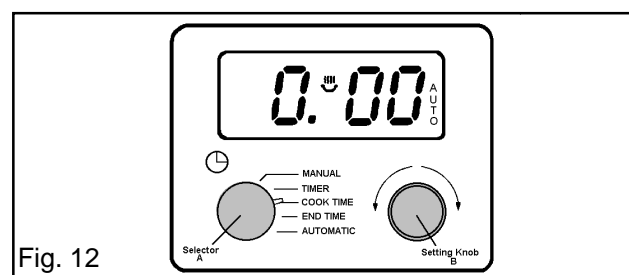

Fig. 12
viii) To cancel the signal, turn setting knob (B). The display will show 0.00 when the selector (A) is turned to 'Cook Time'. Fig. 12. When the selector (A) is set to 'Automatic', the display will show time of day and the 'AUTO' symbol will flash.